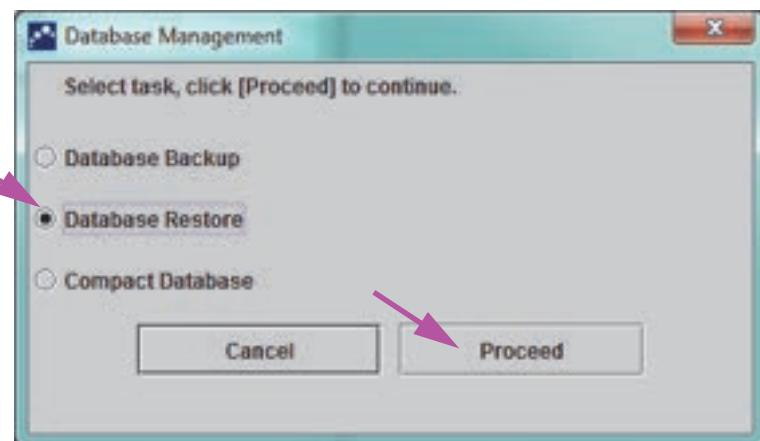

Figure 5-76. Database Management Window
1. Select **Database Restore** on the Database Management window. See Figure 5-76.
9. Either click **Proceed** in the Database Restore confirmation dialog box to continue, or click **Cancel** to discontinue and return to the Database Management screen (see Figure 5-76).
1. Select **Compact Database** on the Database Management window. See Figure 5-76.